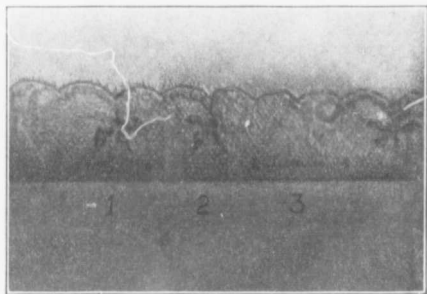

FIG. 37.—Mending lace.
Bind very carefully together. This is done by winding the very fine thread around the thread of the lace and the corresponding thread of the patch beneath. In Fig. 37 (1) shows a patch applied in this way.
fasten the loose threads of the lace to the stitch just taken. Continue, replacing each severed thread of the lace in this way. See "3" in Fig. 37.